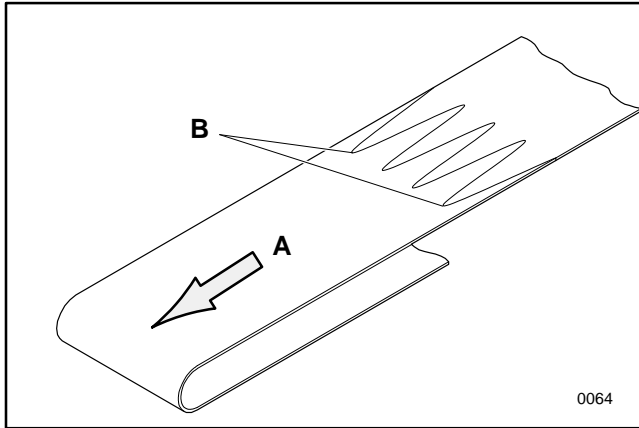
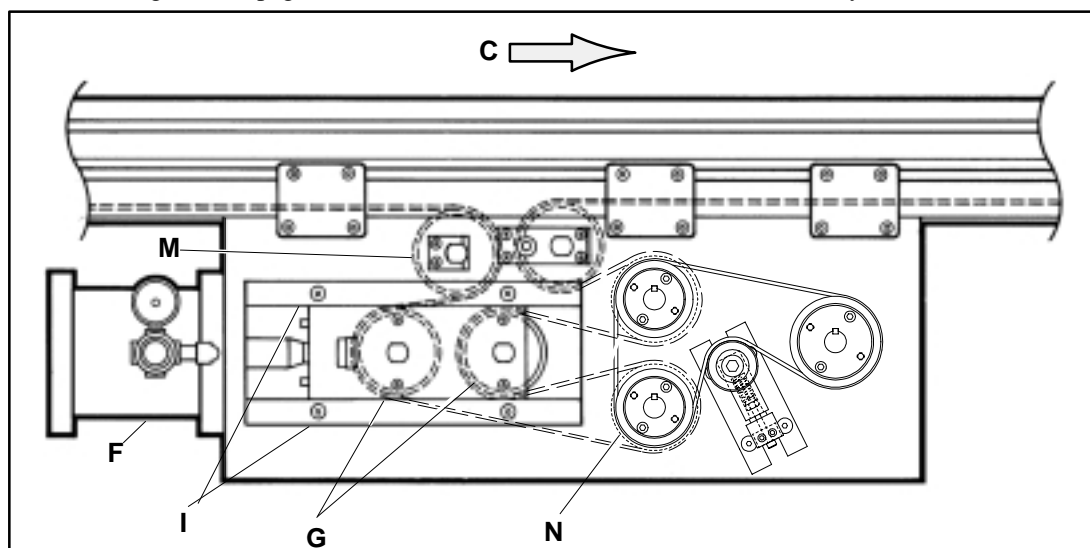

Figure 29: Replacement Belt Orientation Detail
Figure 36
3. Always position and install the new conveyor belt so the belt splice leading finger (B of Figure 29) points in the direction of travel (A), on either side, is as shown.
2. Remove air pressure from the take-up air cylinder (F of Figures 36 & 37).
6. Refer to Figure 36 and remove both take-up pulleys (G of Figure 36).
7. Remove the two take-up guides (I) from one side. Remove the inner and outer take-up plate assemblies and slide out both pulleys and shafts.
8. Remove the fixed position idler pulley (M). Remove the shaft retaining clip from one side and push out the shaft. Then, remove the pulley.
9. Remove the lower drive pulley (N) from the drive pulley shaft. Remove the drive bearing assembly, from one side. Then, pull the drive pulley out of the center drive unit.
10. With the pulleys and shafts (G, M and N) removed, the splice fingers of the correctly oriented replacement conveyor belt can be brought into the center drive module and routed around the two remaining pulleys as shown in Figure 36.
Make sure that the replacement belt is proper oriented with respect to the direction of travel. Refer to Figure 29 on page 20. All horizontal center-driven conveyor belts travel in the direction indicated by the arrow (C of Figure 36).